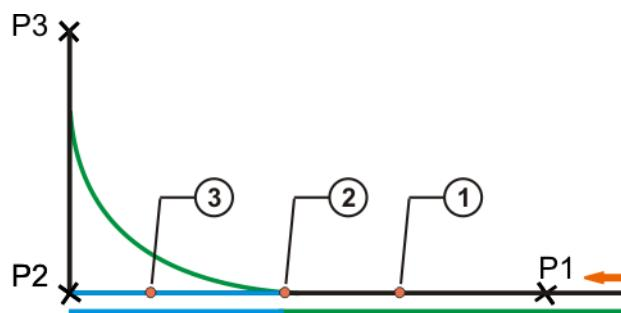

Fig. 8-7: Example motion for logic with advance run
Signal-dependent wait functions programmed **with advance run** allow approximate positioning to be carried out for the point before the command line. However, the current position of the advance run pointer is not unambiguous (default value: three motion blocks), so the precise moment at which the signal will be checked is not specified (1) (=> Fig. 8-7). Furthermore, signal changes after the signal has been checked are not detected!